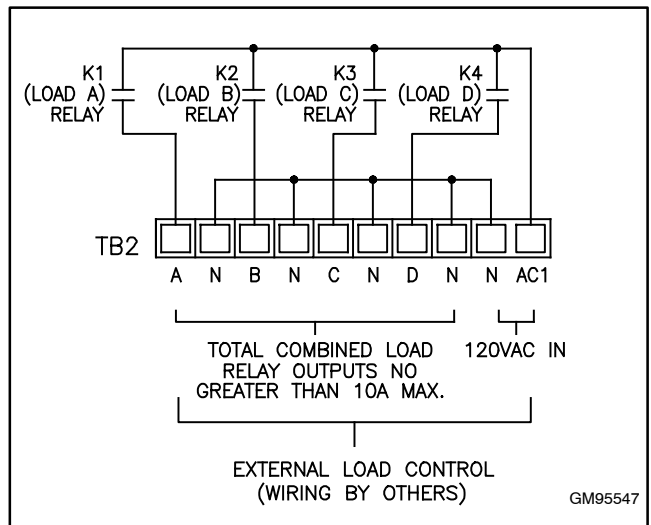

Figure 2-25 Power Relay Circuit on the Combined Interface/Load Management Board
Connect the customer-provided load relays to terminal block TB2 for Loads A, B, C, and D. See Figure 2-25 for the connections. See Section 2.7.1 for the recommended relay specifications.
10. Connect 120 VAC power to TB2 connections AC1 and N. See Figure 2-25. Connect 120 VAC line voltage to terminal AC1. Connect the neutral to N. The power to this circuit must be backed up by the generator set and not be part of a sheddable circuit.